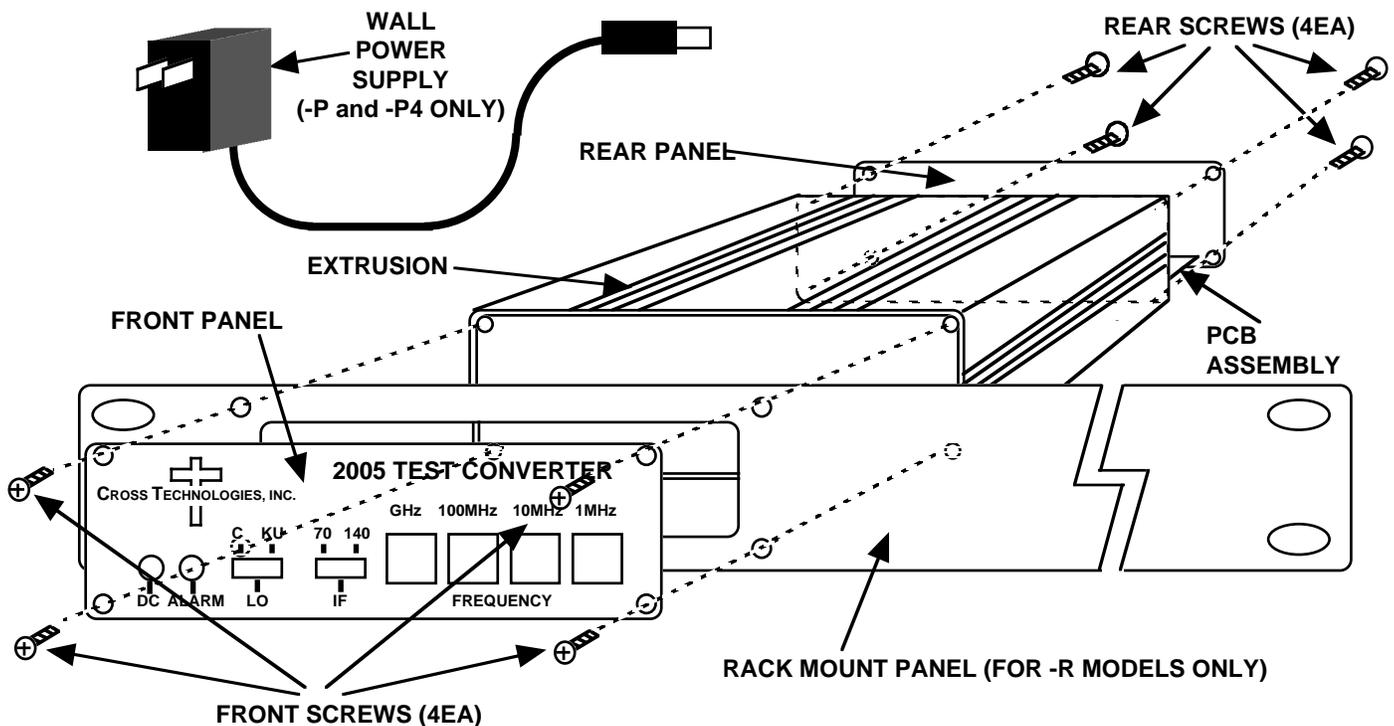

FIGURE 2.3 2005 Assembly Drawing
The 2005 is packaged in an aluminum extrusion. The **-R option** is mounted on a 1 3/4" X 19" panel that can be mounted to a rack using the 4 holes at the ends. The unit derives +DC from the RF out center conductor (+14 to +24 VDC) or the wall power supply (+15V unregulated, **option -P, -P4**). See Figure 2.3.
2. Remove four (4) rear panel screws (see Figure 2.3).
5. Install four (4) rear panel screws.